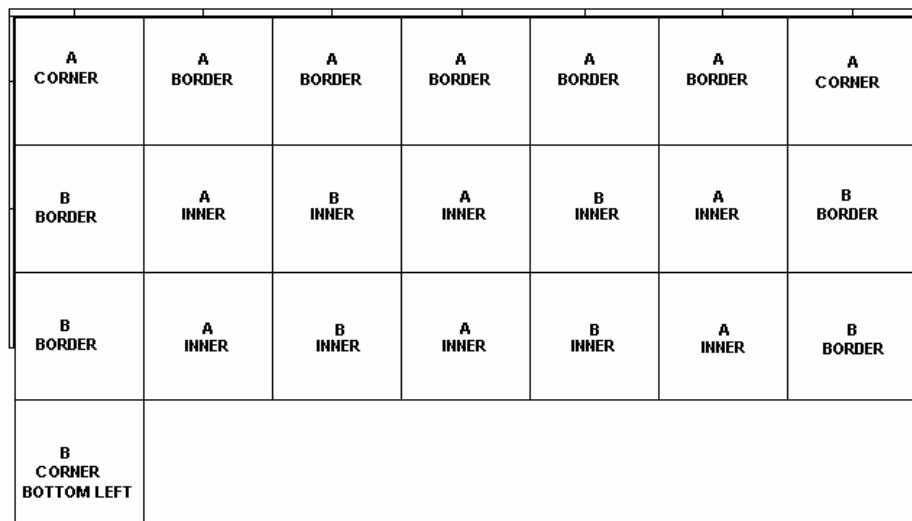

Figure 24
21. Once you get to the desired length or width you will use a "B CORNER BOTTOM" to start your last row. (Figure 24)